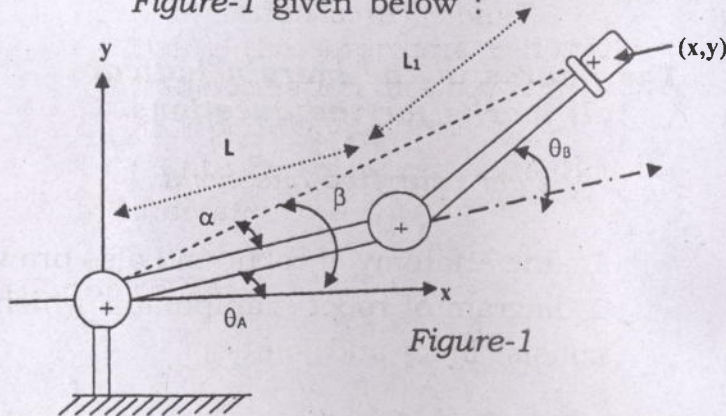

Figure-1
2. (a) Describe a 2-DOF robot manipulator (R-R) and also define the position of end arm in the world space (Forward transformation) using the vector of links L & L_1 . Calculate the reverse transformation (Q_A & Q_B) from the Figure-1 given below :